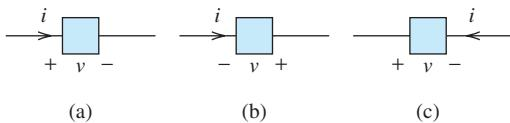

FIGURE P2.49 Circuit for Problem 2.49.
- 2.49 (A)** Identify the passive and active devices in Figure P2.49, and compute the power absorbed or supplied.